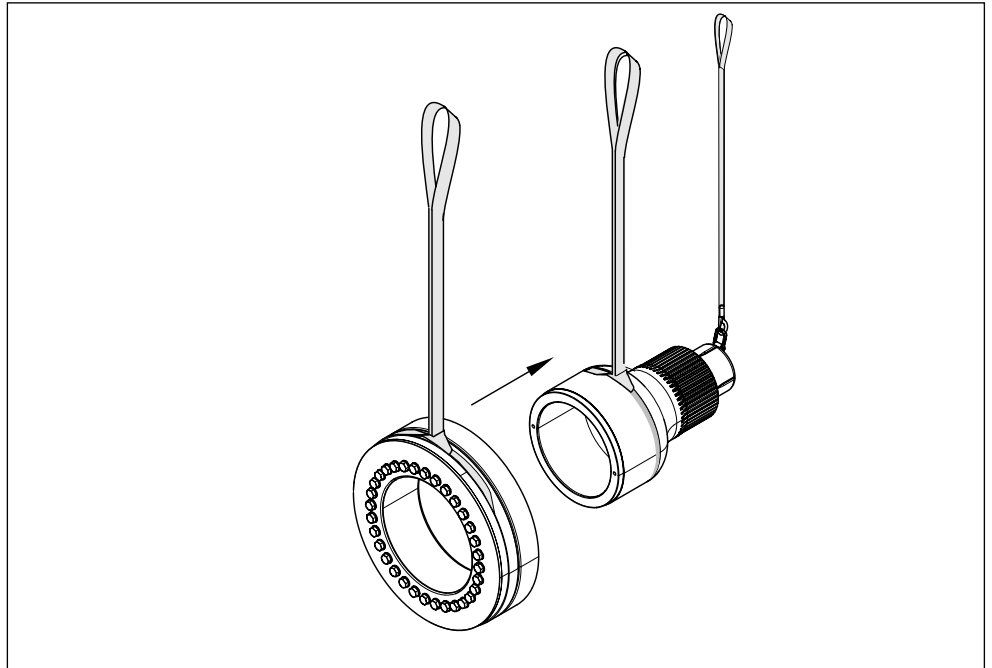
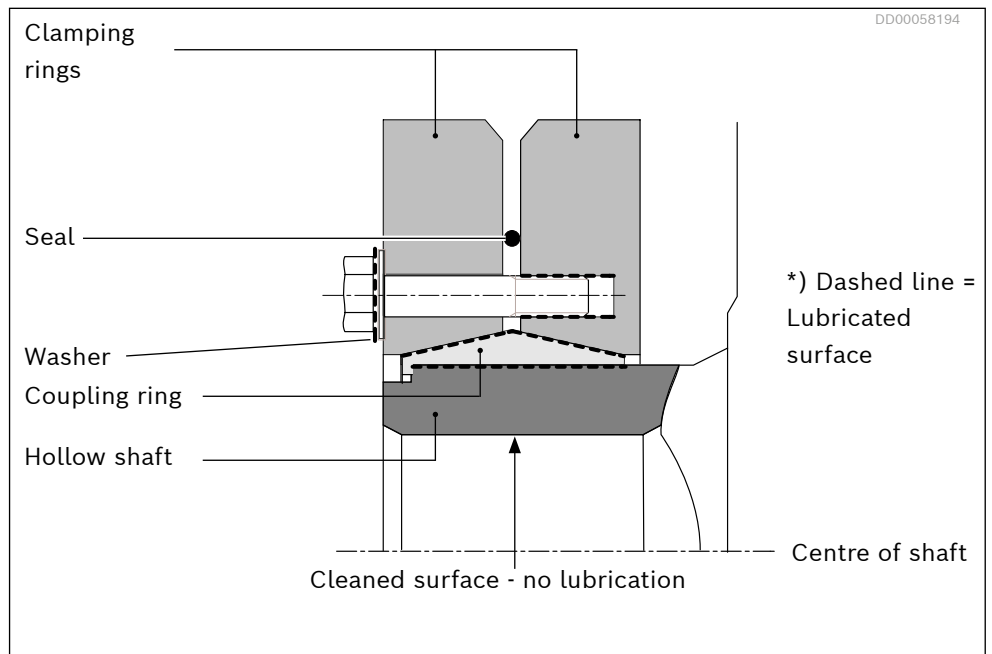

Fig. 33: Mounting of shrink disc on adapter shaft
Fig. 34: Shrink disc
- ▶ Grease must under no circumstances be transferred to the surfaces between the driven shaft and the hollow shaft (see *Fig. 34*).
- 1.** The shrink disc arrives from the factory lubricated with grease on the conical surfaces and the screws (see *Fig. 34*). This lubricants shall remain on these surfaces.
- 4.** Mount the shrink disc on the hollow shaft. Use an approved sling between the clamping rings (see *Fig. 33* and *Fig. 34*). The coupling must be pushed completely to the stop of the hollow shaft. If necessary separate the clamping ring for easier mounting.
*) The conical surface between the coupling ring and the clamping rings as well as the screws shall be coated with Molykote G-Rapid plus paste, (see Fig. 34). This is done from the factory at delivery.